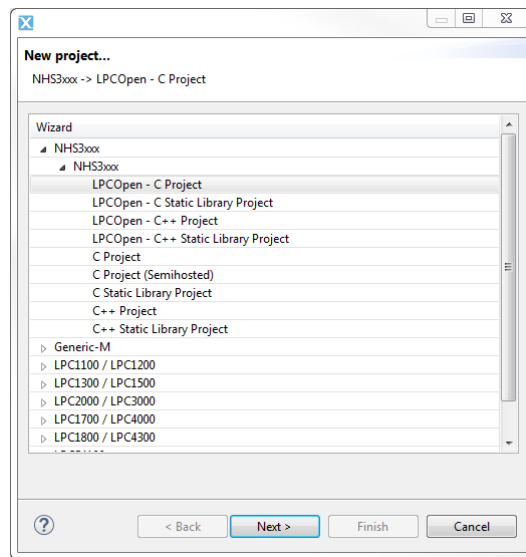

Figure 18: *LPCOpen - C project is currently the sole supported project type*
- Select *NHS3xxx > NHS3xxx > LPCOpen – C Project* – see Figure 18.